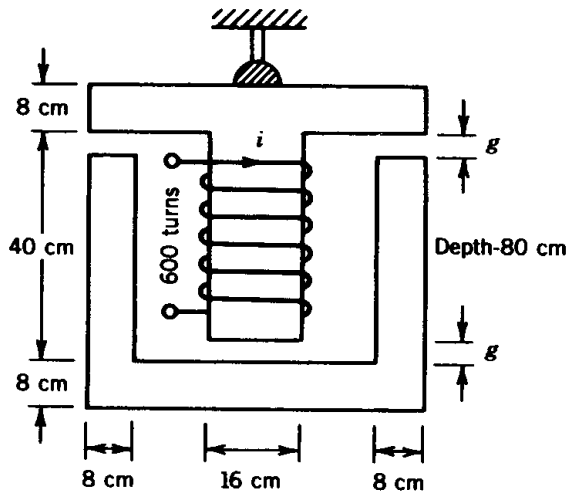

FIGURE P3.4
- 3.4 Fig. P3.4 shows an electromagnet system for lifting a section of steel channel. The coil has 600 turns. The reluctance of the magnetic material can be neglected up to a flux density of 1.4 tesla.